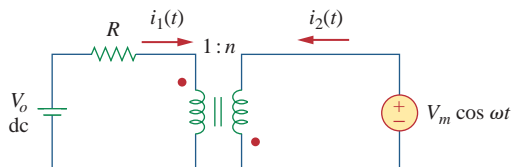

Figure 13.109
***13.44** In the ideal transformer circuit of Fig. 13.109, find $i_1(t)$ and $i_2(t)$.